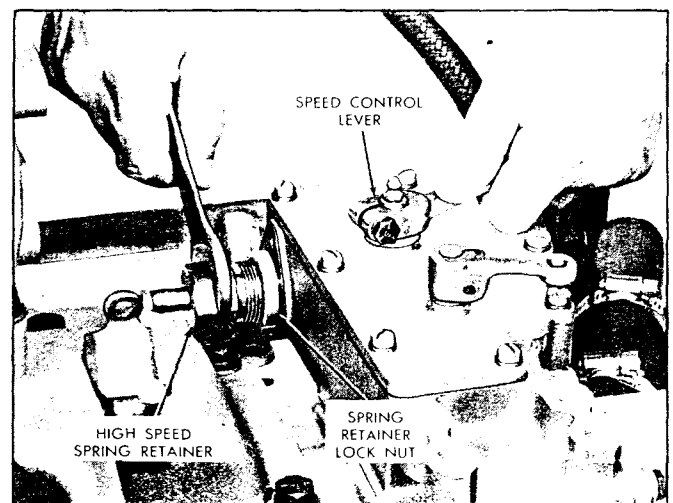

Fig. 12 - Adjusting Maximum No-Load Engine Speed
2. With the engine at operating temperature and no-load on the engine, place the speed control lever in the maximum speed position. Turn the high speed spring retainer in (Fig. 12) until the engine is operating at the recommended no-load speed. Use an accurate hand tachometer to determine the engine speed. The recommended speed droop is 150 rpm for governors with a full-load speed range of 2500-2800 rpm.